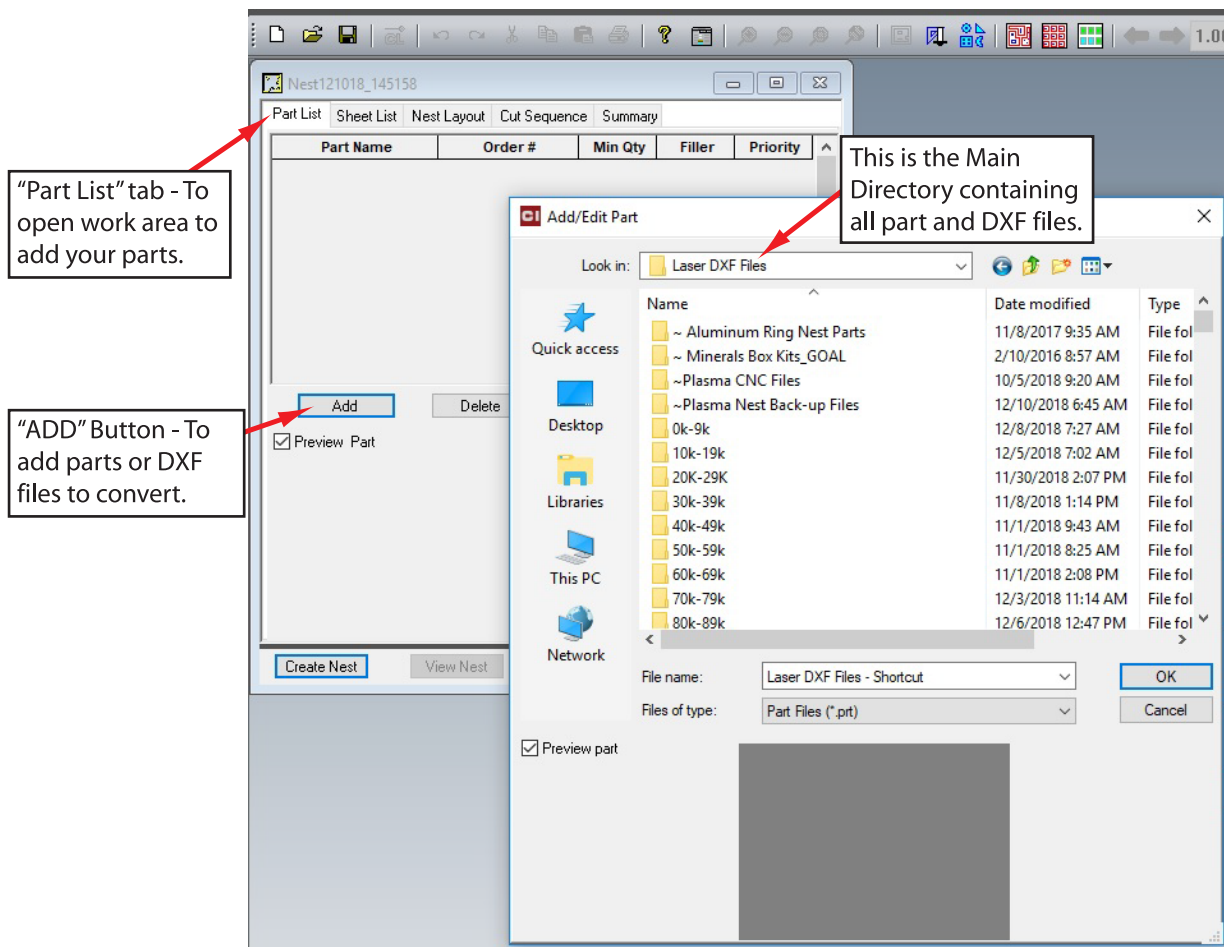

Fig.8
- 8) Next, add the parts you want by clicking on the “**PART LIST**” tab (1st. tab from the left on the upper tab bar), and then click the “**ADD**” tab on the far left of the window to open the search window to select the desired part folder, then click “**OK**” to place the part into the parts list shown in Fig.8. Repeat for each part needed.
**NOTE: All “Part” and “DXF” file Folders for all nesting parts are in the “Laser DXF Files” folder. See Fig.8 below.**